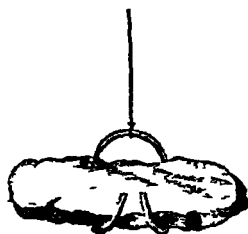
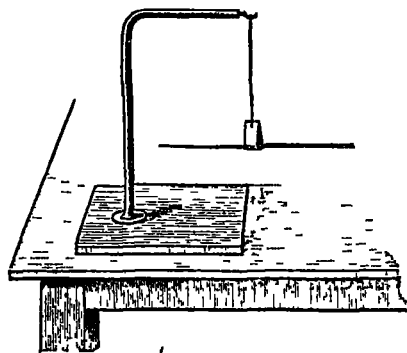
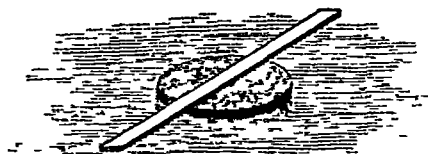

FIG 118
FIG 120
FIG 121
Place the natural magnet on a stirrup suspended by a piece of untwisted silk. It sets in a direction nearly north and south (fig 118).
(1) Make a stirrup with copper-wire, and hang it to a support by fibres of *untwisted* silk, or by a horse-hair (fig 118). A paper stirrup is also convenient (fig 120). (2) Place the body on a piece of cork floating in water (fig 121). (3) In ordinary magnets a hole is drilled through the centre of mass